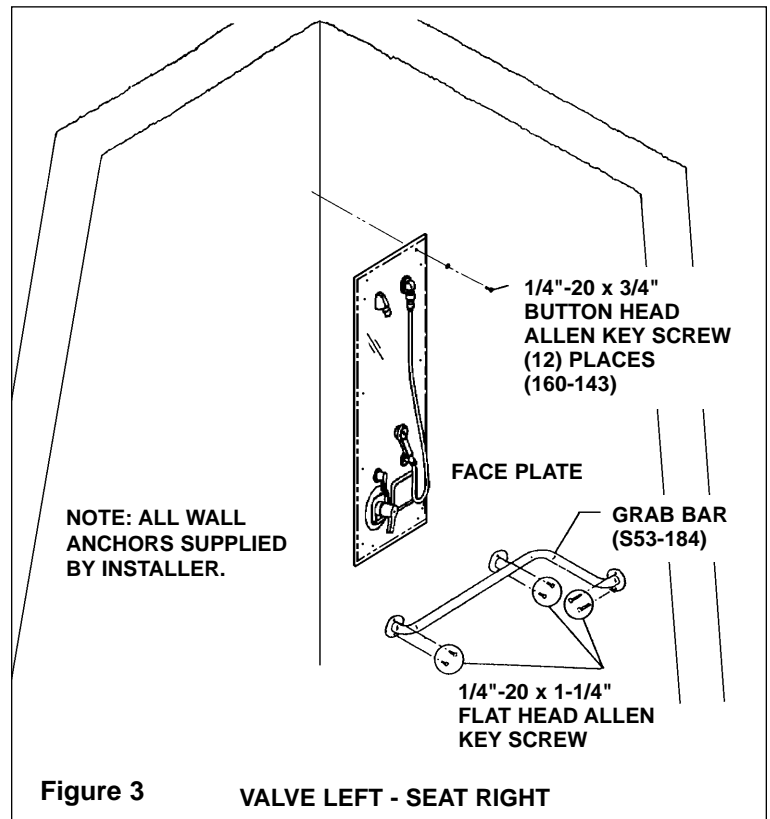

Figure 3
1. Position the face plate on the wall. Mark the wall and install twelve wall anchors suitable for use with 1/4"-20 x 3/4" button head Allen key screws (see Figure 3).
2. Attach the face plate to the wall with twelve 1/4"-20 x 3/4" button head Allen key screws provided (see Figure 3).
4. Use the flange as a template and mark the six screw hole locations and install six anchors supplied by installer for 1/4"-20 x 1-1/4" flat head Allen key screws (see Figure 3).
5. Secure the grab bar to the six wall anchors using six 1/4"-20 x 1-1/4" flat head Allen key screws (provided by installer) (see Figure 3).